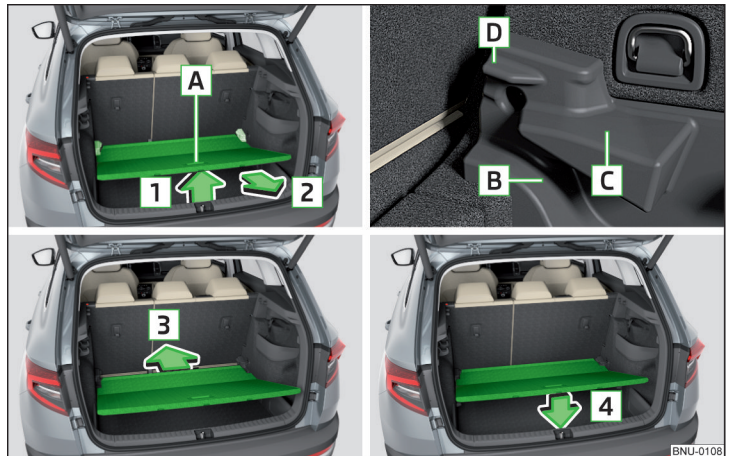

Fig. 155 Adjusting the variable loading floor
- ▶ Raise the variable loading floor by the handle **A** in direction of arrow **1** and move partially in the direction of arrow **2** » Fig. 155.